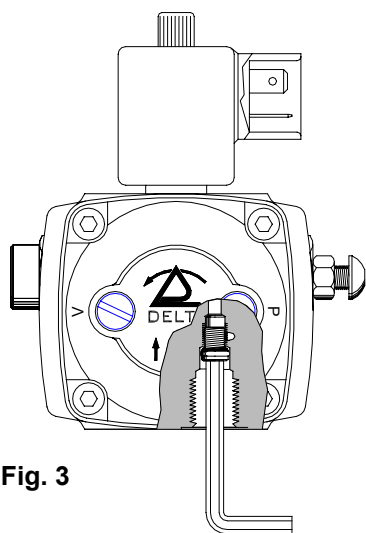

Fig. 3
- c) Insert and screw the by-pass plug in the return port (Fig. 3).
- d) Using a 4 mm Allen wrench, unscrew the by-pass plug from the return port (Fig. 3).